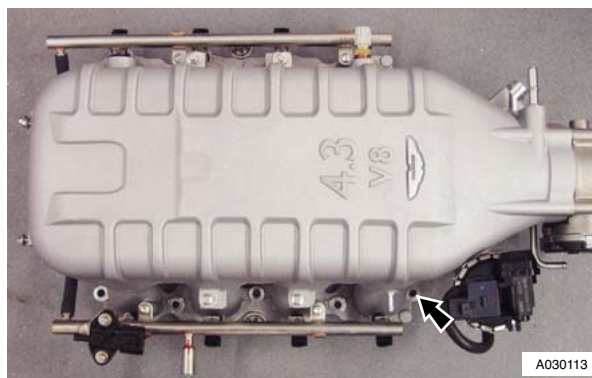

Figure 1
26. Progressively loosen and remove bolts (x 10) securing intake manifold to cylinder heads (see Figure 1).